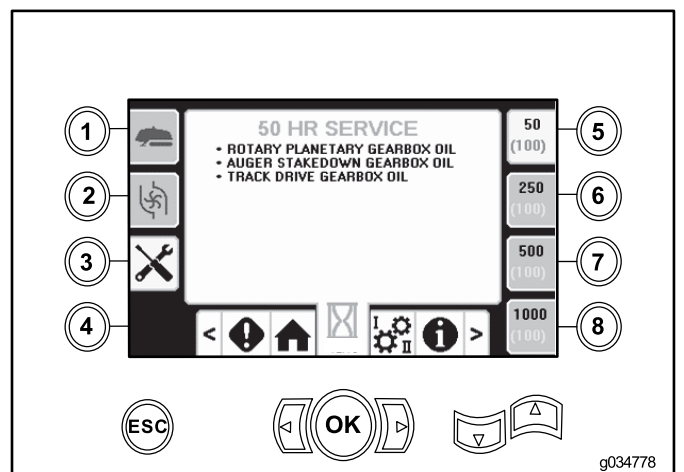

Figure 44
- Button 5—50-hour (Figure 44)